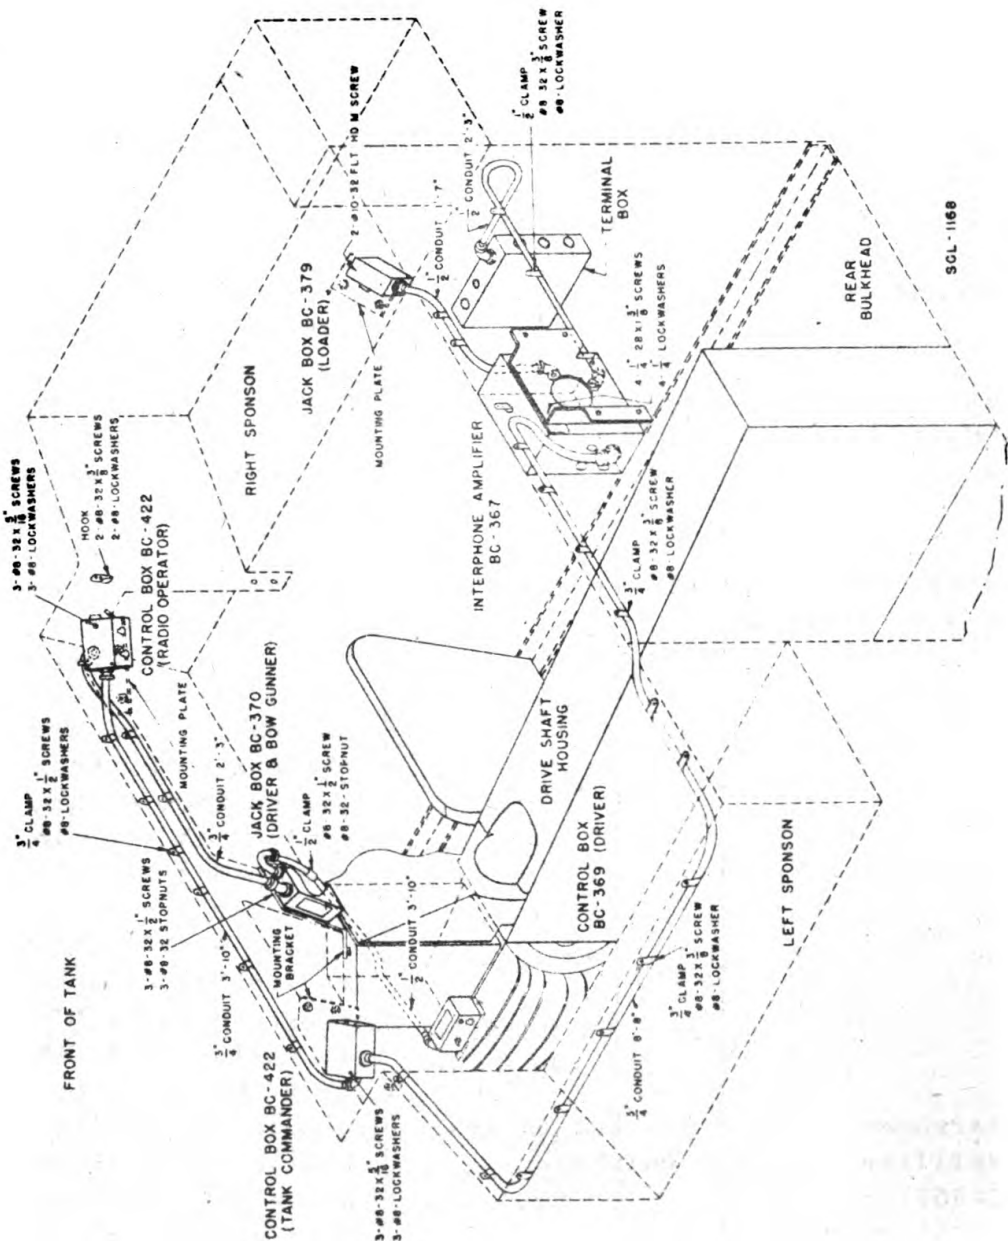

FIGURE 7—Installation of interphone equipment RC-61 in light tank M3.
6. Installation.—*a. Drilling data.*—Light tank M3 comes with all the necessary mounting holes. If necessary, drill a 3/16-inch hole in jack box BC-370 mounting bracket for the conduit clamp shown in figure 7.
b. Clamps, screws, etc.—All clamps, screws, nuts, and lockwashers needed to install the various components in this vehicle are shown in figure 7. Care shall be taken to use the exact screw specified, and all screws, clamps, etc., left over shall be placed in a cloth bag and secured to a bracket. It is important to have the holes in the vehicle and the brackets line up with the drilling in the interphone equipment. Be sure to use lockwashers where stop nuts are not called for. *Do not change hole line-up on the interphone parts unless absolutely necessary.*
(4) *Mounting bracket for jack box BC-370.*—Unscrew the two 3/4-inch nuts and remove the bracket from the front center support. See figure 7.